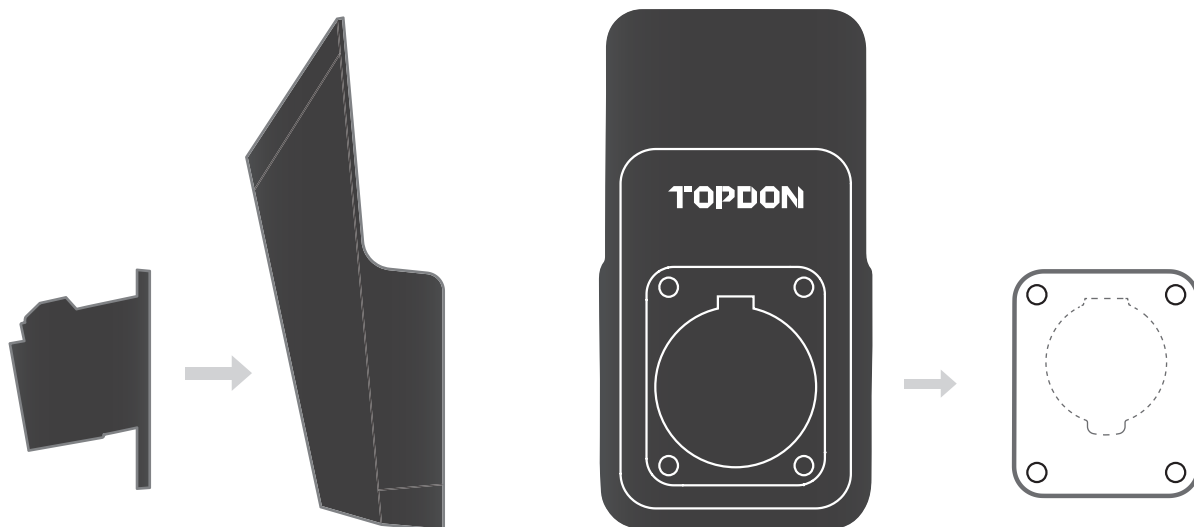

Fig. 5.8.3
4. Fit the charging plug socket into the charging dock (See Fig. 5.8.3)